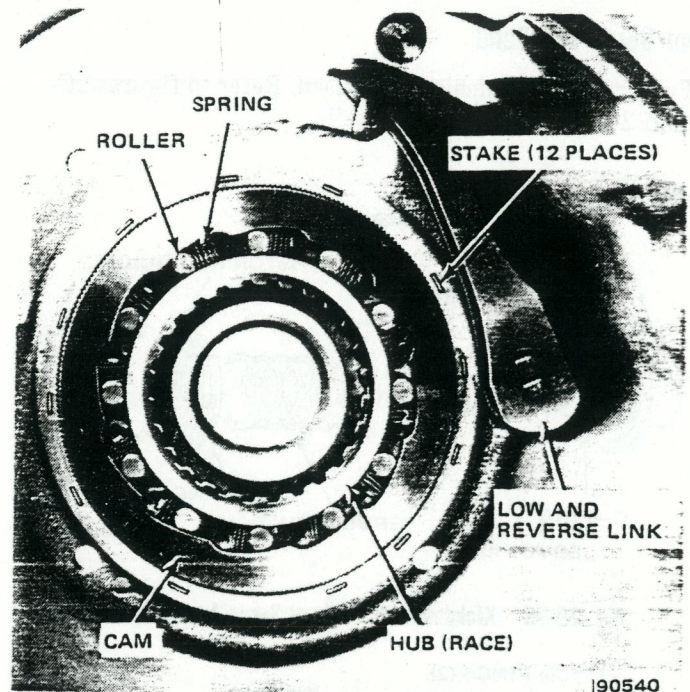

Fig. 2C-96 Overrunning Clutch and Rear Band Link
- (1) Place transmission case in upright position and install clutch cam and spring retainer.
- (2) Install clutch springs and rollers so springs rest against retainer post and rollers rest against springs, and with both springs and rollers installed on counter-clockwise side of spring retainer posts (fig. 2C-96).